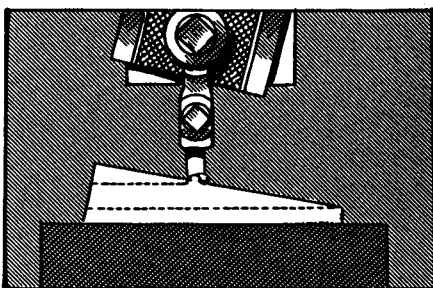

FIG. 374
1. Start the machine and move the work over carefully until the tool scrapes the work (Fig. 374).